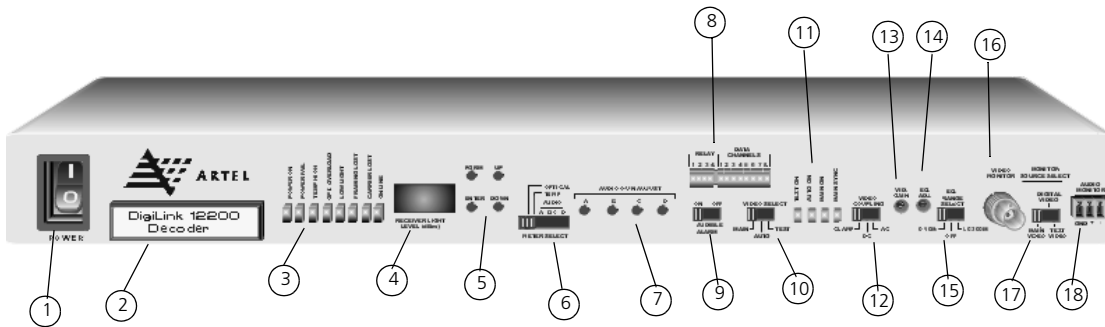

Figure 4-1. DigiLink Decoder Front Panel
A label appears in the bezel on the left side of the decoder's front panel, below the Artel logo (see item 2 on Figure 4-1).